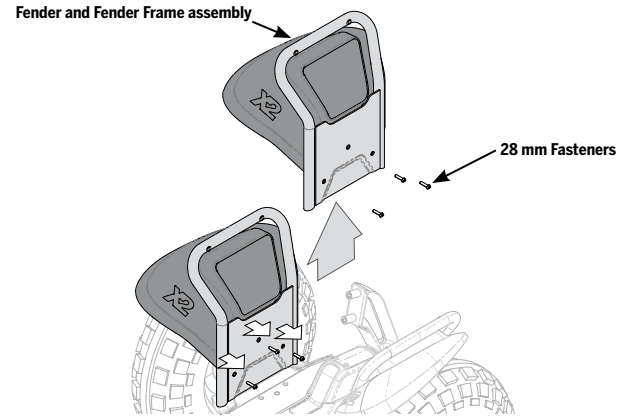

Figure 72: Remove/Install the x2 SE Fender/Fender Frame Assembly
2. Remove the three 28 mm fasteners using a 4 mm hex wrench (see **Figure 72**).